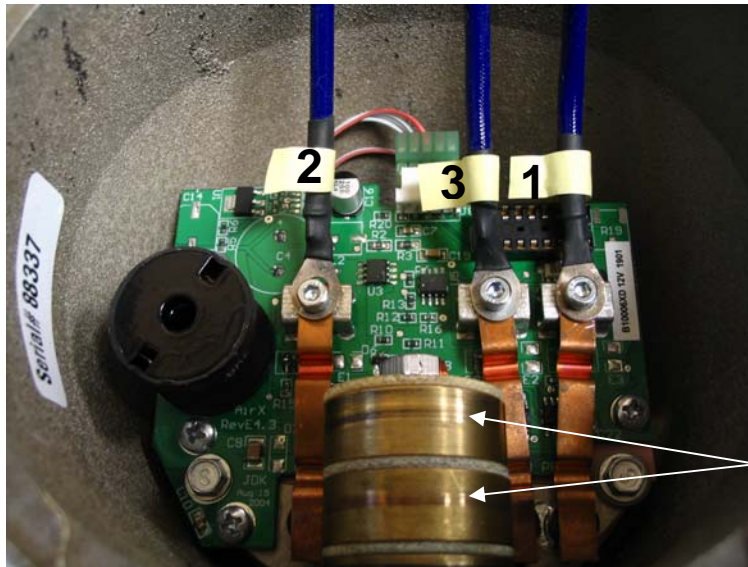

Fig. 13
40. Rotate the yaw shaft. Take a close look at each of the brushes to make sure they are properly contacting the appropriate slip ring. Make sure each spring is properly seated in the rectifier slot and that the brush wires are not being pinched. There will be fresh "brush tracks" on the slip rings. See Fig. 13. **Also, make sure the slip rings are vertically aligned.**
43. Orient the body as described in step 30. Using the three, small socket-head screws, connect the wires from the new alternator assembly in the following order from left to right on the circuit board: **#2 - Left Terminal, #3 - Center Terminal, #1 - Right Terminal.** See Fig. 13 below for clarity. It is important that the three ring terminals are parallel and cannot contact one another once tightened. Torque spec for these bolts is 10 in-lbs.